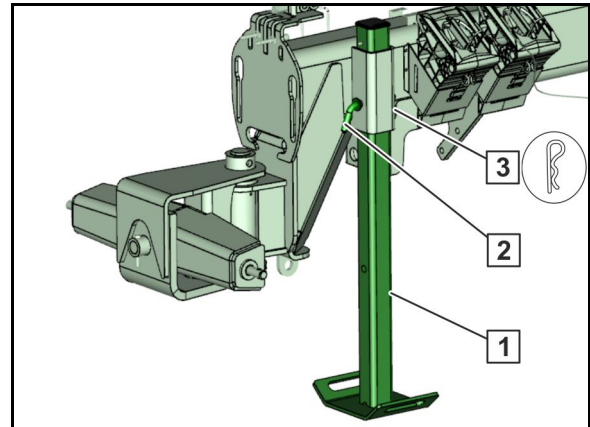

Fig. 22
The pressure mechanism (Fig. 22/1) increases the pressure which the roller exerts on the ground.
1. Loosen both lock nuts (Fig. 22/2).
2. Tighten screw (Fig. 22/3).